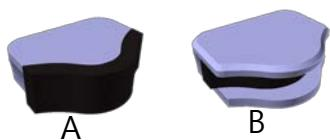

Figure 2
1. Choose an adapter head for the type of fiber to be tested. The SFI-10B is supplied with two adapters (as shown in Figure 2): (A) foam-covered, to accommodate 250 μm bare fiber and 900 μm buffered fiber; (B) foam-covered, for 3 mm and 2 mm jacketed fiber (i.e., jumpers) or loose tube fiber.